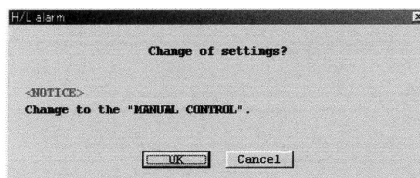

Fig.44
- ③ H/L alarm is a function to turn the status output "OFF" when the item set at "H/L alarm vars" reaches "High alarm point" or "Low alarm point" (where "Status output func" is set to "H/L Alarm"). Select one type to suit your particular application from three available alarms- "High alarm", "Low alarm" and "H/L alarm".
- "H/L alarm" : Turns the status output "OFF" when "High alarm point" or "Low alarm point" is reached. H/L alarm status can be reviewed at "View H/L alarm" and "Process Variables (V)".
- ④ Set up individual items. For items with an arrow mark at right, click on the arrow mark at right, select from the drop-down list ; for other items, key in appropriate Estonians directly.
- ⑤ After filling in all the fields required, click on "OK" button. A message box as shown in Fig. 44 then appears.